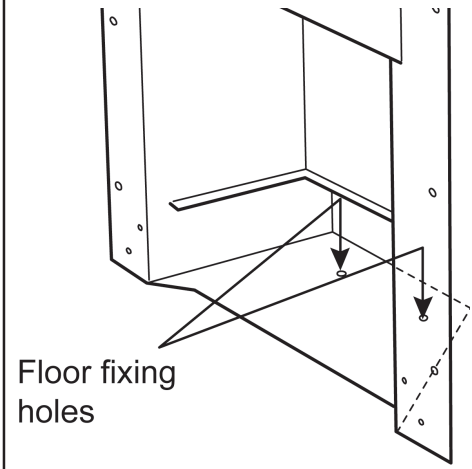

Figure 21. Floor fixing
**8.** Drill a hole into the fireplace floor through each of the two holes in the base of the convection box using a suitably sized masonry drill bit for the wall plugs supplied (See figure 21).